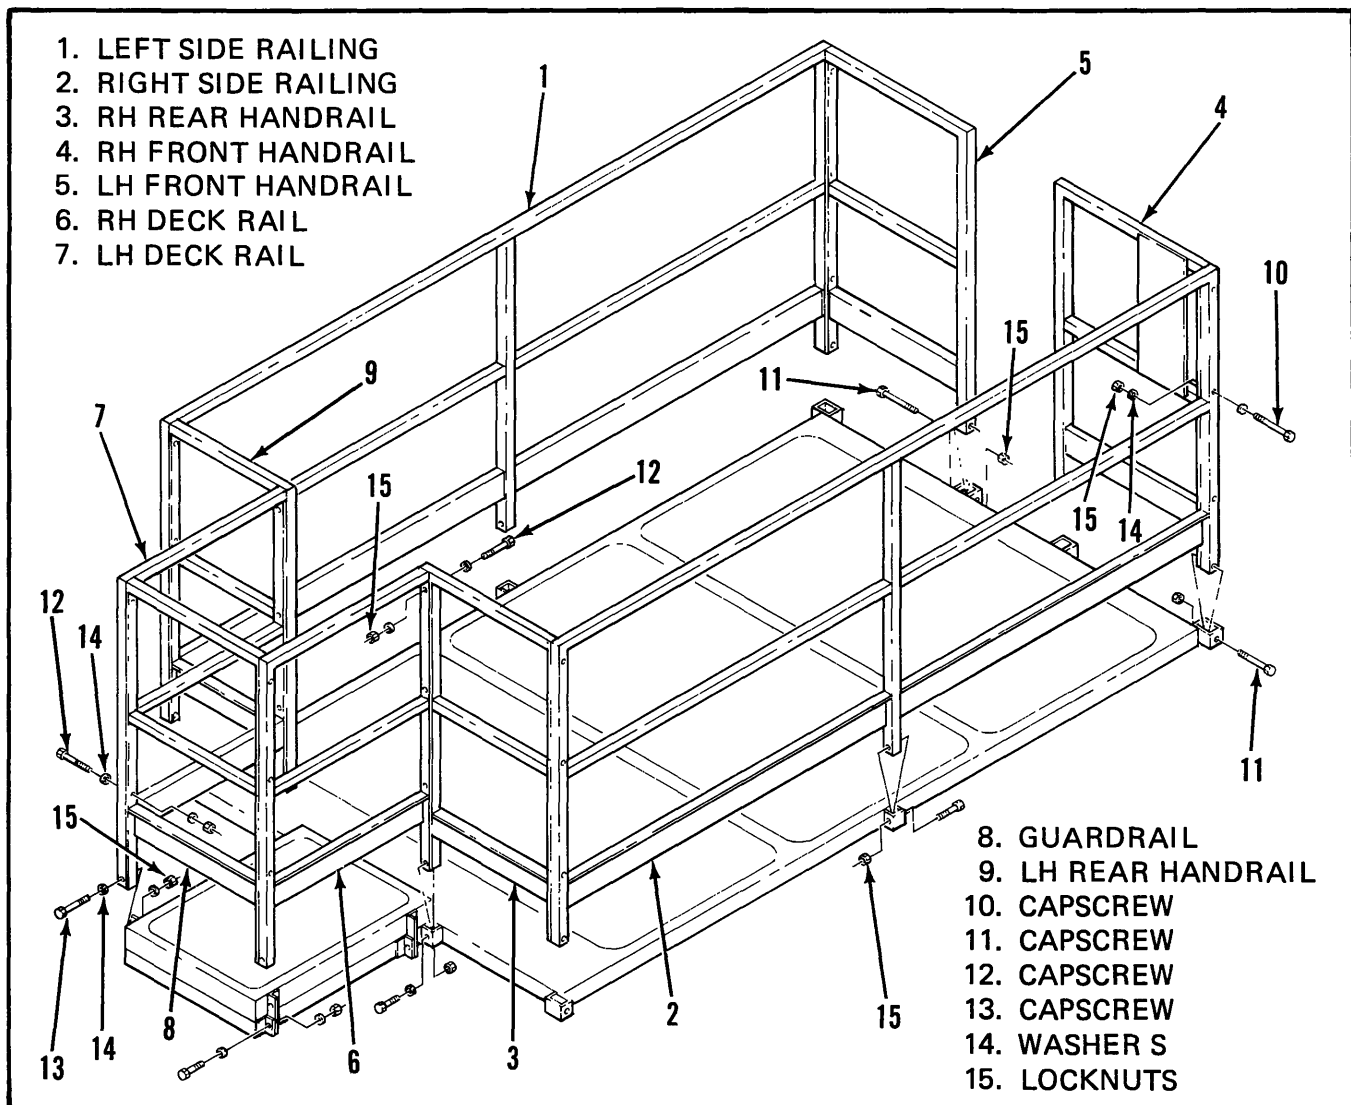

Figure 3-1. Railing Removal and Installation
- c. Refer to Figure 3-1 and install the railing assemblies (1 thru 9) and secure with capscrews (10 thru 13), washers (14) and locknuts (15).
- g. Refer to Figure 3-1 and remove all the locknuts (15), washers (14) and capscrews (10 thru 13) then remove the railing assemblies (1 thru 9).